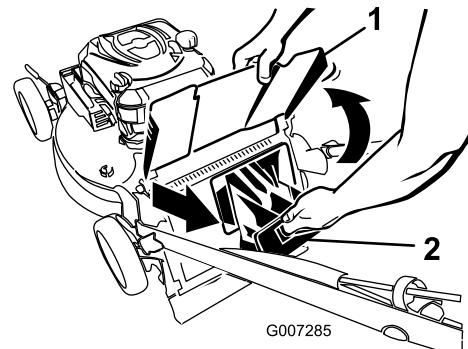

Figure 26
3. Pull out the rear discharge plug (Figure 26).